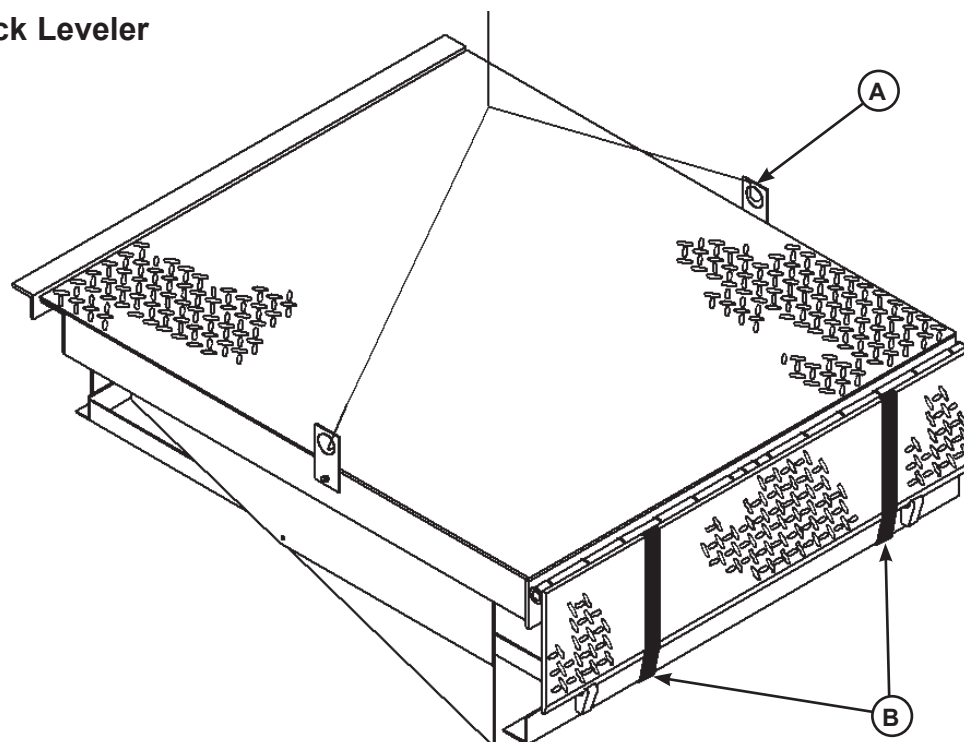

Figure 6
Poweramp dock levelers are shipped with lifting brackets (A) fastened to the platform side joists, and shipping bands (B) around the platform lip and leveler frame (see Figure 6).
3. Attach lifting chains to lifting brackets (A) and to a lifting device (i.e., hoist or fork truck) having the appropriate lifting capacity and reach.